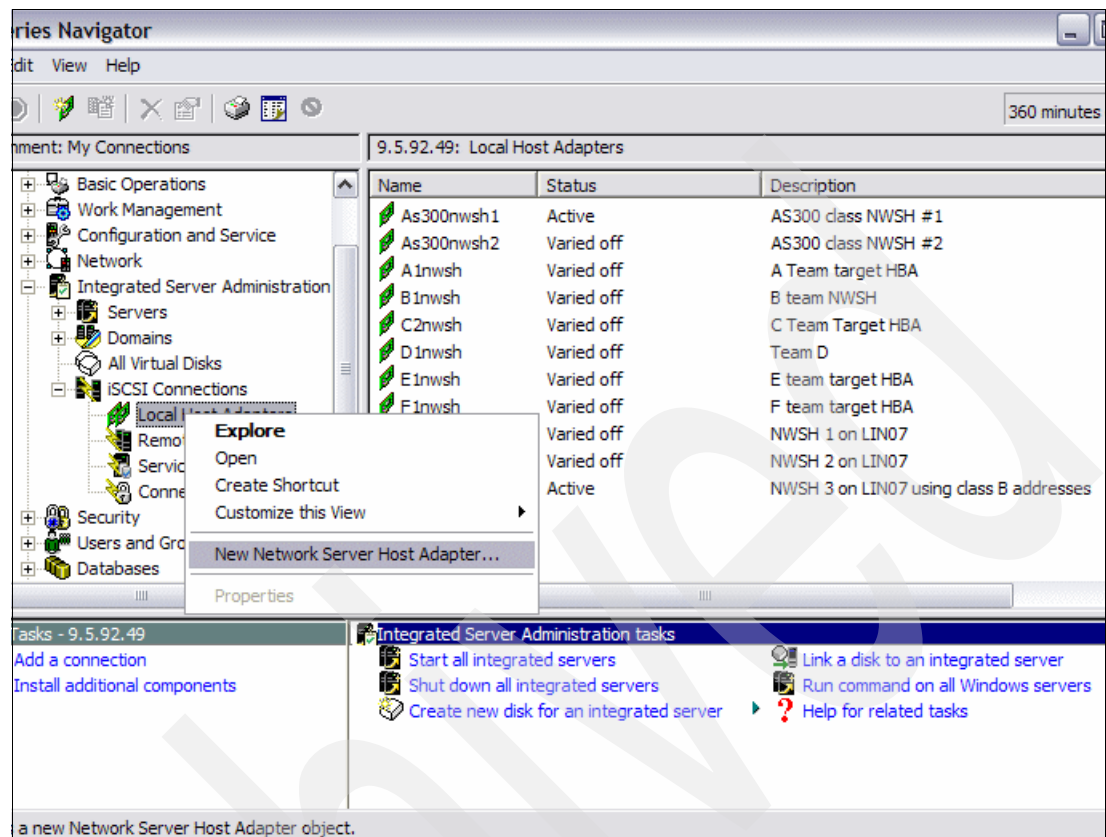

Figure 4-14 Select New Network Host Adapter to create new NWSH
6. Right-click **Local Host Adapter** and click **New Network Host Adapter** (Figure 4-14).